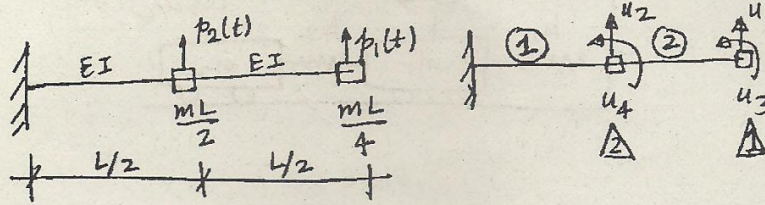

Fig. 3
12. (a) A mass less cantilever beam of length  $L$  supports two lumped masses  $mL/2$  and  $mL/4$  at the mid point and free end as shown in Fig. 3. The flexural rigidity of the beam is uniform,  $EI$ . with the four degrees of freedom shown in Fig. 3, and the applied forces  $P_1(t)$  and  $P_2(t)$ , formulate the equations of motion of the system.